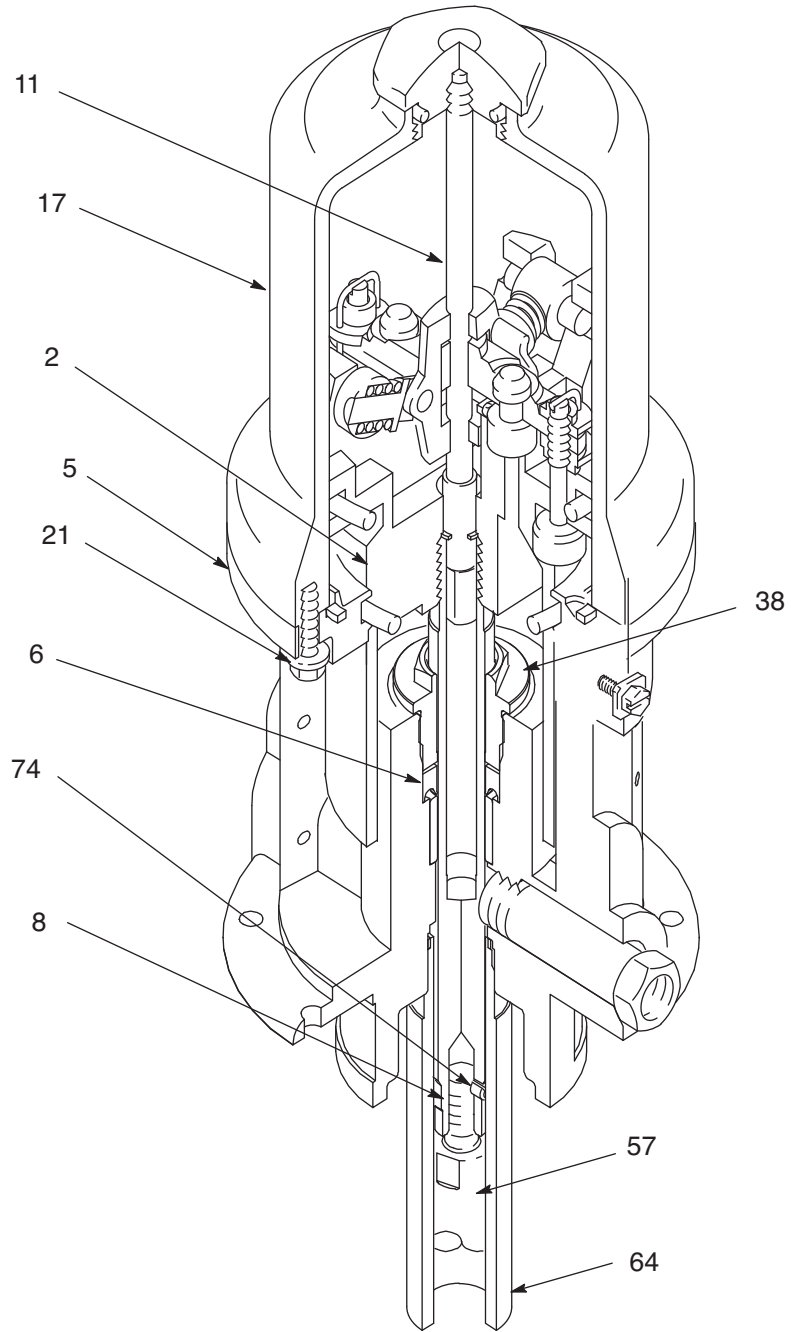

FIG. 4
Refer to FIG. 4 for the following instructions.
3. Disconnect the hoses, remove the pump from its mounting, and clamp the air motor base (5) in a vise.
4. Use a strap wrench or pipe wrench on the extension tube (64) to screw it out of the base (5). See FIG. 4.
5. Pull the extension rod (57) down as far as it will go, exposing the displacement rod (8).
6. Use a hammer and punch to remove the roll pin (74) from the displacement rod (8), and unscrew the extension rod (57) out of the displacement rod.
7. Manually push on the displacement rod (8) to move the air motor piston (2) up as far as it will go. Unscrew the cylinder cap nut (29a or 29b). Pull the nut up. Grip the trip rod (11) with padded pliers, and screw the nut off the rod. (FIG. 4)
8. Remove the six screws (21) that hold the cylinder (17) to the base. Carefully pull the cylinder straight up off the piston (2).
2. Check the polished surfaces of the piston (2), displacement rod (8), and cylinder (17) wall for scratches or wear. A scored rod causes premature throat seal wear and leaking.
4. Install the new throat seal (6), **lips facing down**. Screw the packing nut (38) into the base (5).
5. Slide the displacement rod (8) down through the throat, and lower the piston (2) into the base (5). Be sure the o-rings (9, 10, and 24) are in place. (FIG. 4)